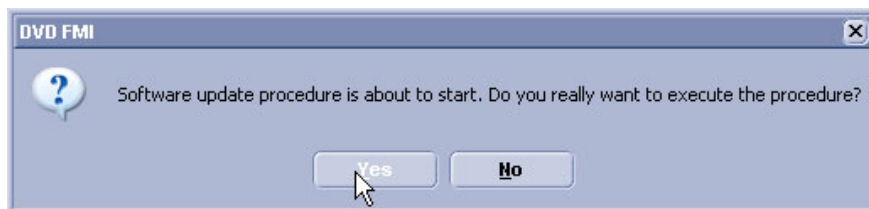

Figure 8-7 Yes - start update procedure
11.) To start update procedure click YES (Figure 8-7 below).